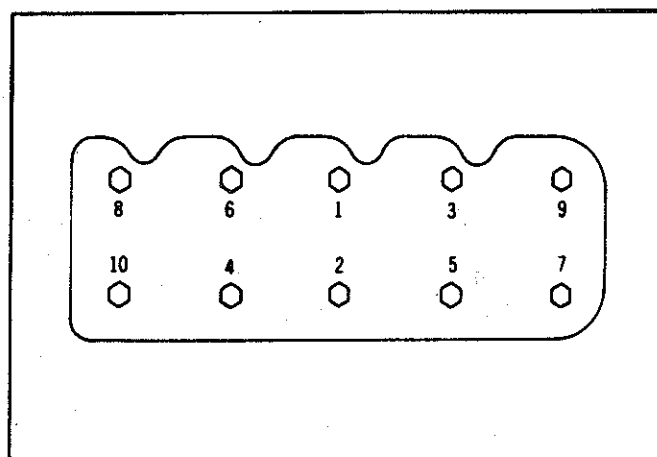

Fig. 16—Cylinder head bolt tightening sequence
(1) Position the new cylinder head gasket to the block locating it correctly onto the dowel pins. Ensure there are no old gasket pieces left on the block or head surfaces.
(2) Install the cylinder head assembly onto the cylinder block and tighten head bolts to the specified torque in three stages and in the sequence shown in Fig. 16.